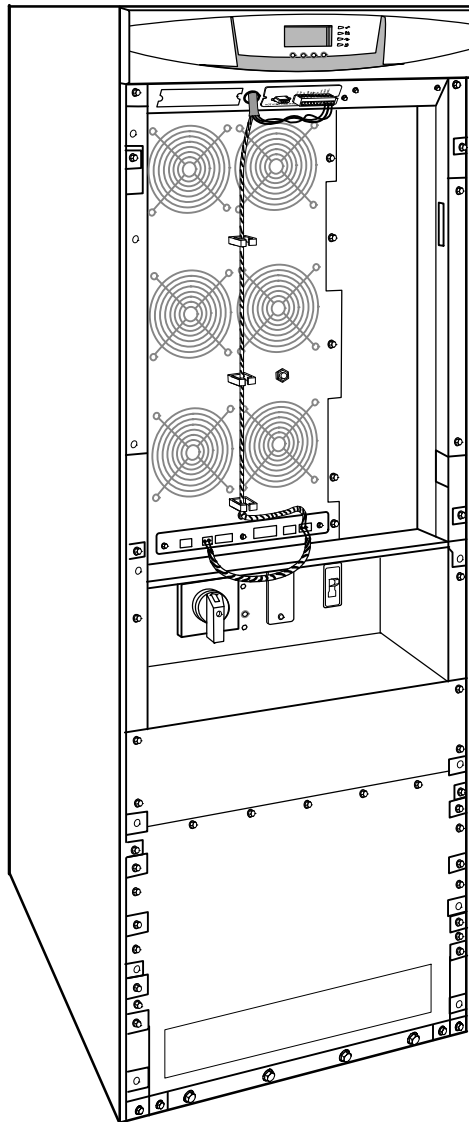

Figure 51. Installing Communication Cables
5. Install the CAN Bridge Card into X-Slot 2 (see Figure 36 and Figure 51).
10. Route the pull-chain wiring through the middle of the fan section and secure in the cable clips for each UPS (see Figure 51).